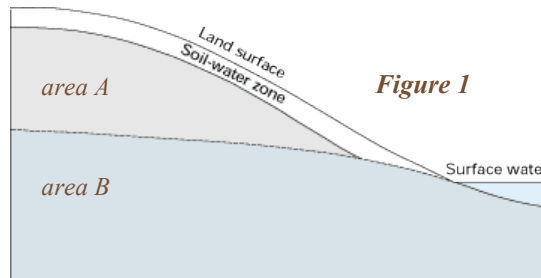

Figure 1
1. In figure 1, what is the proper name for area A?
2. What would you expect to find in the voids (spaces between the sediment particles) throughout most of area B in figure 1?
3. In figure 1, the line separating area A and area B is known as the ____.